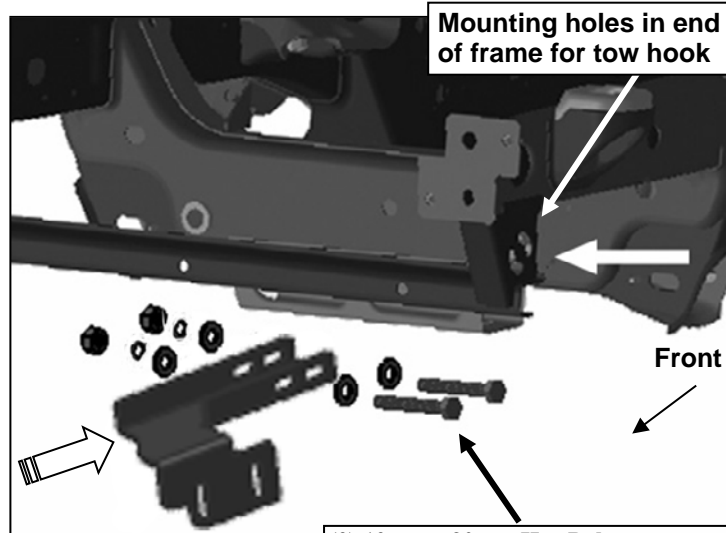

Fig 8
3. Line up the (2) holes in the Bracket with the (2) holes in the frame for the tow hook. Select (2) 12mm x 90mm Long Hex Bolts and (2) 12mm Flat Washers, **(Figure 8)**. Insert the Bolts with Washers through the Bracket and the (2) holes through the frame, **(Figure 7)**. Secure with (2) 12mm Flat Washers and (2) 12mm Lock Washers (2)12mm Hex Nuts, Do not fully tighten hardware at this time.